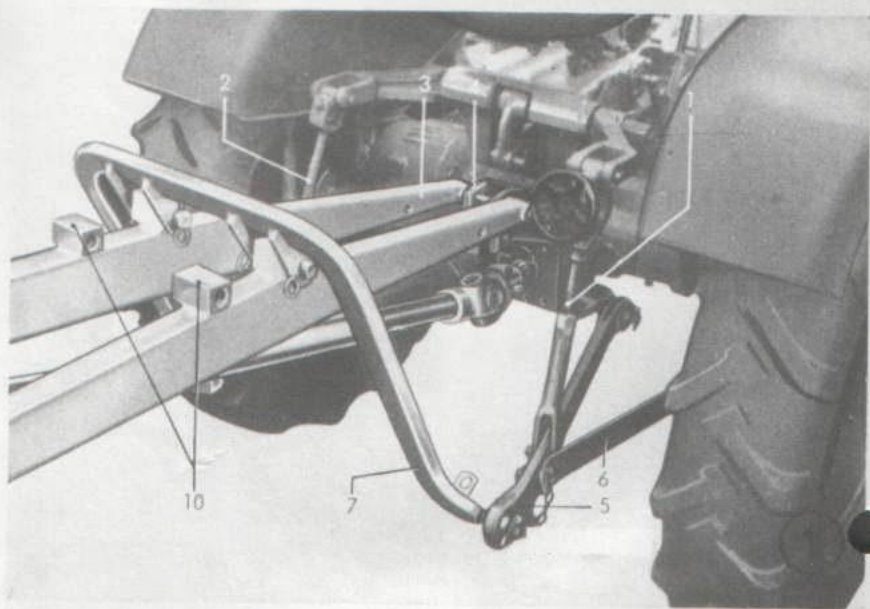

Fig. 1 - Attachment of lift beams
2. Attach beams (3) to tractor at (4), see Fig. 1.
3. Block up beams (3) at rear ends to obtain a horizontal position of beams.
4. Attach lower links (5) and stay links (6) to bracket (7). Whenever necessary, lower or raise lower links slightly.